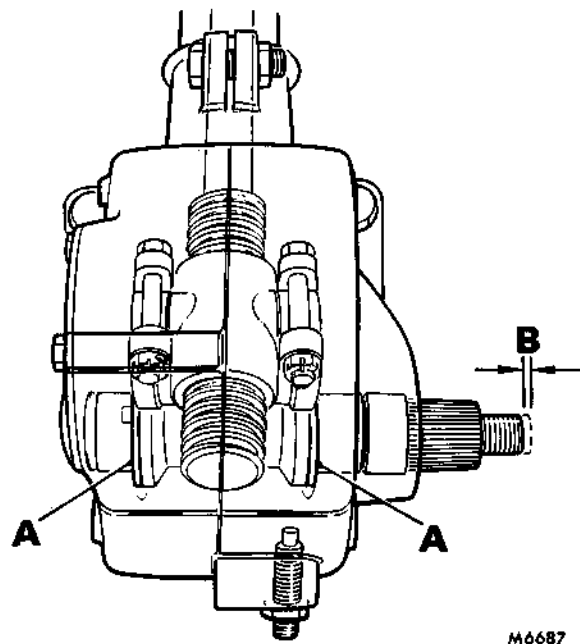

FIG. 5. ROCKER SHAFT IN POSITION
6. Check rocker shaft end-float, see Data; if clearance is excessive, make adjustment by exchanging thrust washers available, fitted equally on both sides of rocker shaft to ensure correct alignment, see Fig. 5.